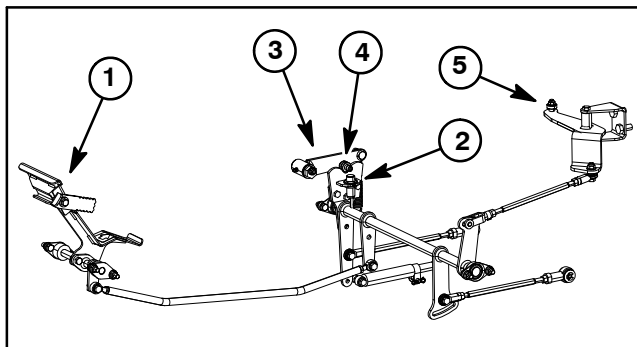

Figure 47
The traction neutral sensor is a normally open proximity sensor that closes when the traction pedal is in the neutral position. The sensor mounts to a bracket on the traction control shaft (Fig. 47). The sensing plate for the traction neutral sensor is the socket head bolt on the neutral arm.
3. Raise and support operator seat. Locate neutral sensor (Fig. 47).
The parking brake sensor is a normally open proximity sensor that mounts to the brake lever assembly (Fig. 47). The sensing plate for the brake sensor is the parking brake detent.